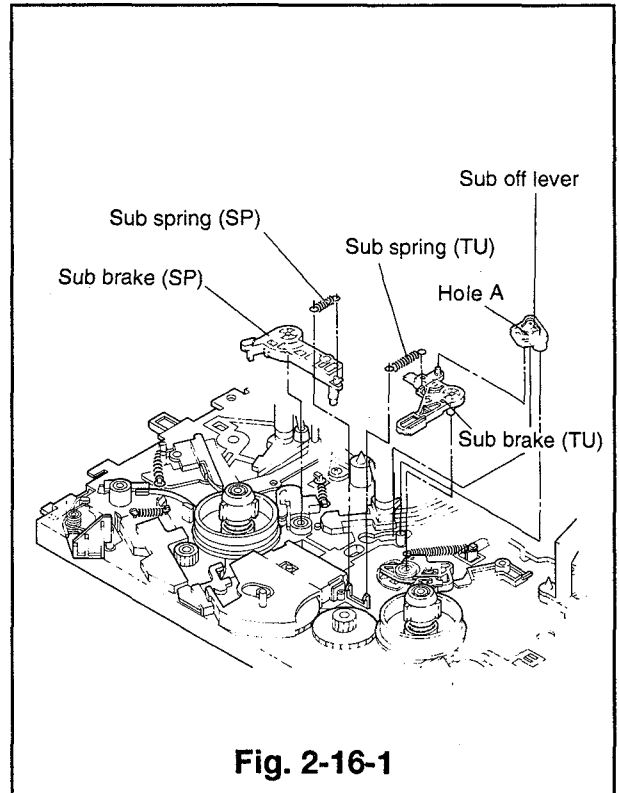

Fig. 2-16-1
- ④ Remove the sub spring (TU). (Refer to Fig. 2-16-1.)
- ② Install the sub brake (TU) on the main plate.
- ③ Install the sub off lever so that the hole A aligns with the boss of the sub brake (TU) as shown in Fig. 2-16-1.
- ④ Install the sub spring (TU).
- ⑤ Install the sub brake (SP) and the sub spring (SP).